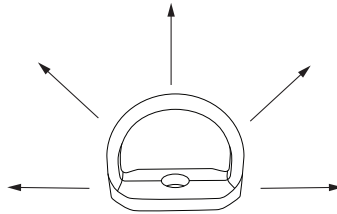

Figure 2 - Approved Load Directions
The Ironworkers Anchor can be attached in a variety of orientations depending on the application at hand. Figure 2 below illustrates the approved load directions of the Ironworkers Anchor.
4. Orient the D-ring to ensure that the predicted load direction is in line with the major axis of the D-ring. See Figure 2. Do not cross load the D-ring. Avoid orientations that cross load or transversely load connectors.